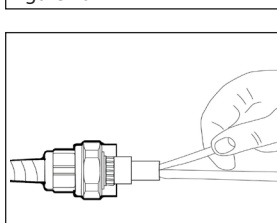

Figure 4b
- Fill throat area of sealing chamber with compound. Use a suitable wooden dowel to pack compound tightly around conductors. (Figure 4b).